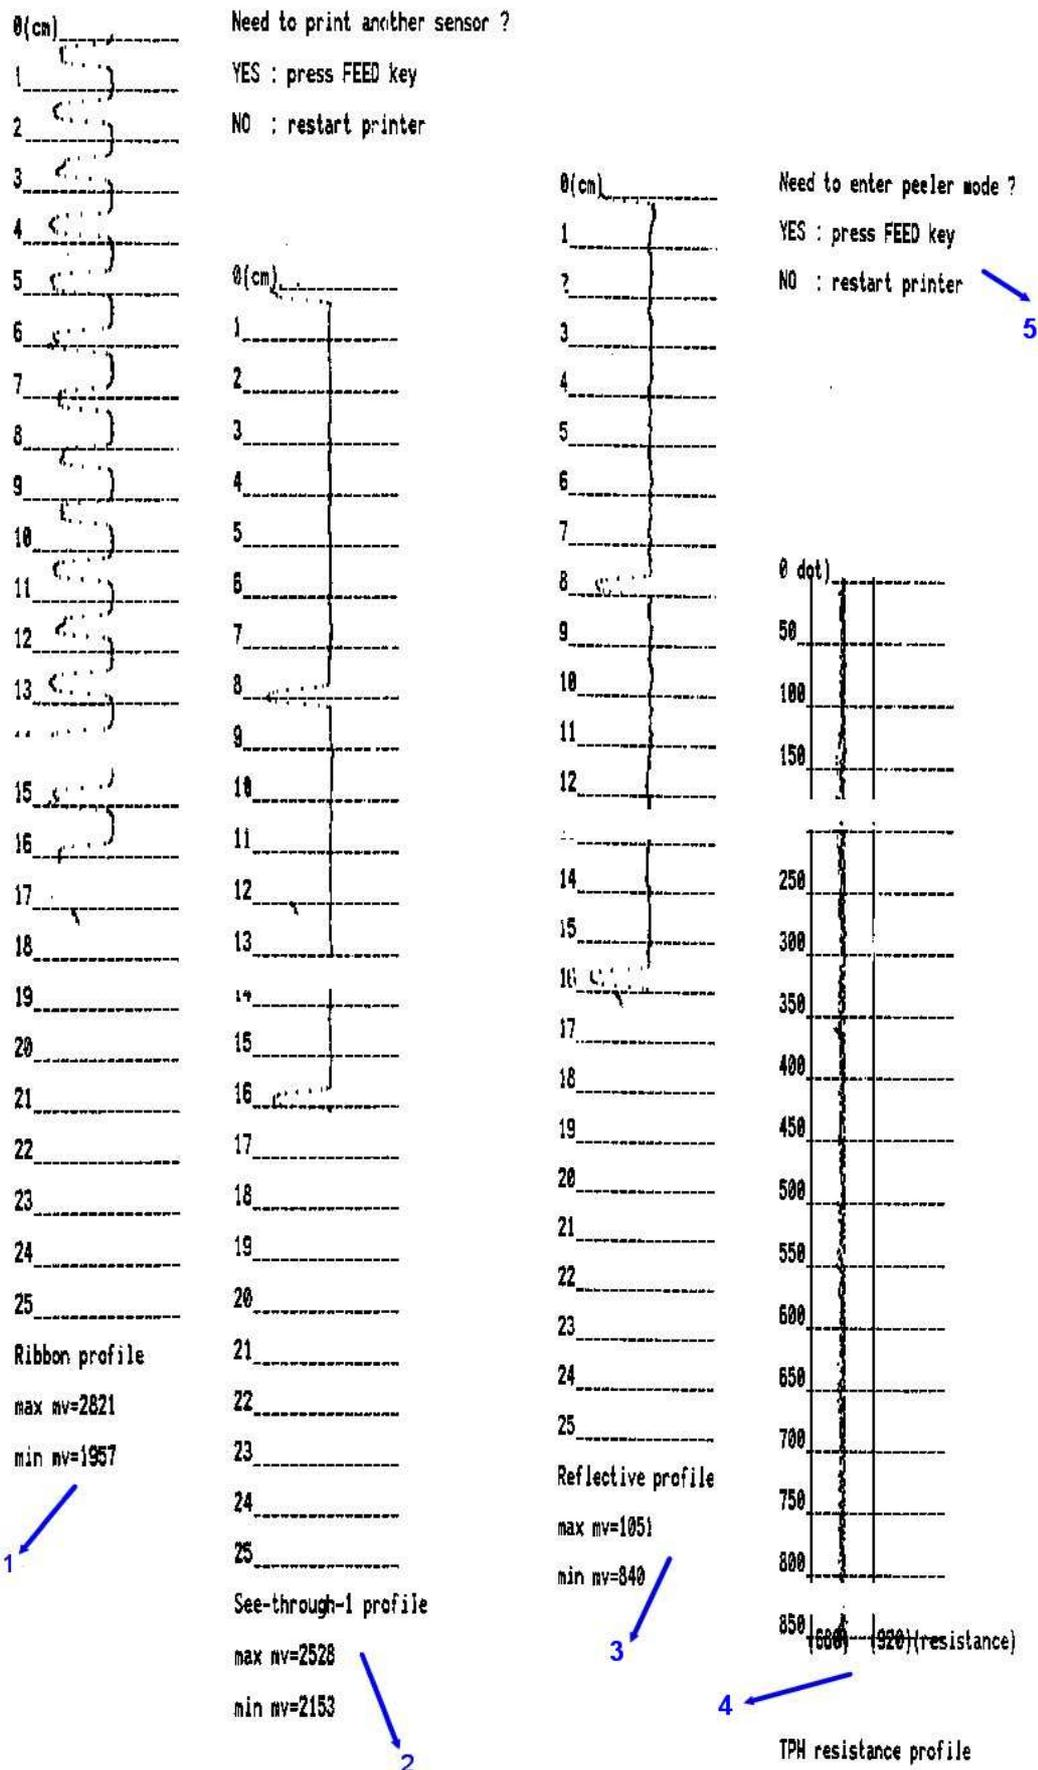

Figure 5.2
- The curves report should be printed as Figure 5.2.